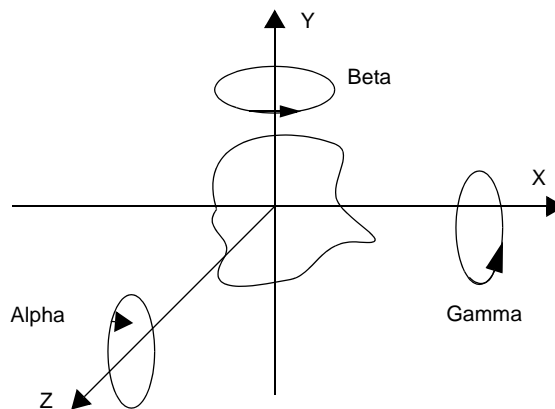

Figure 31: Euler Angles Reported by the Contour Classifier Tool
- Three Euler angles (alpha, beta, and gamma) that describe the rotation of each contour under test with respect to a contour in the catalog (see Figure 31), and
Alpha (Not calibrated)	The rotation of the contour under test in the XY plane (see Figure 31 on page 162).
Beta (Not calibrated)	The rotation of the contour under test in the ZX plane (see Figure 31 on page 162).
Gamma (Not calibrated)	The rotation of the contour under test in the YZ plane (see Figure 31 on page 162).